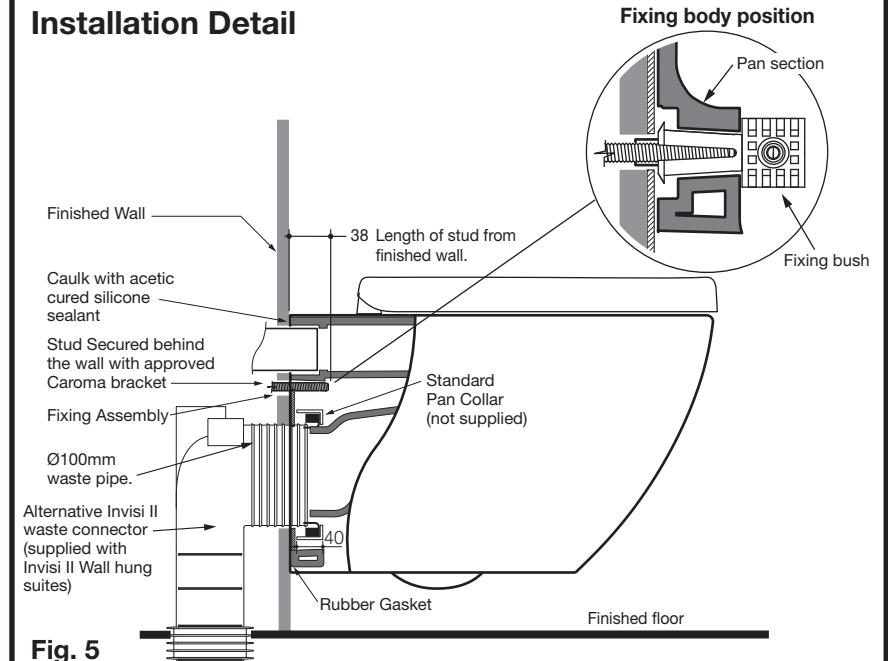

Fig. 5
- 3 - Set the length of the fixing studs 38mm from the finished wall surface, as detailed in **Fig. 5**.